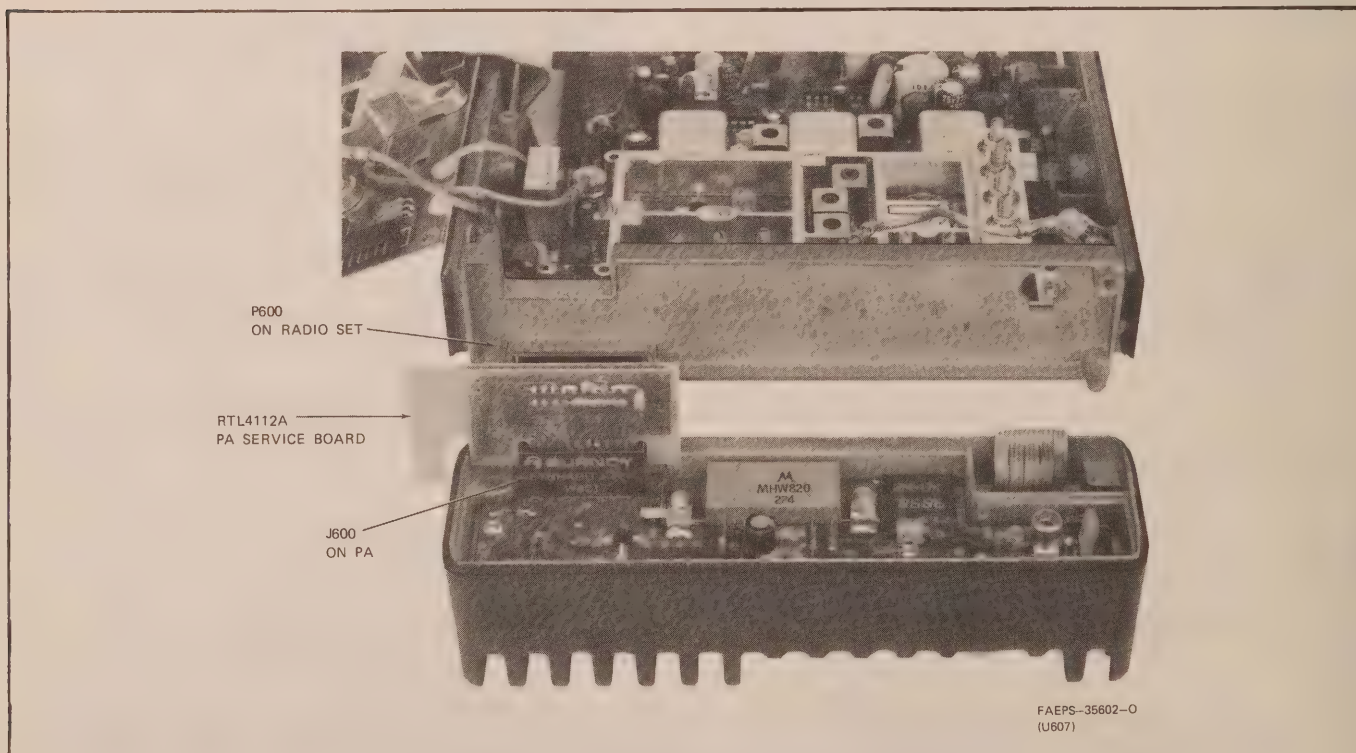

Figure 6. Power Amplifier Service Board Connected Between PA and Radio Set
6.2 IPA TEST PROCEDURE (Refer to Figure 6)